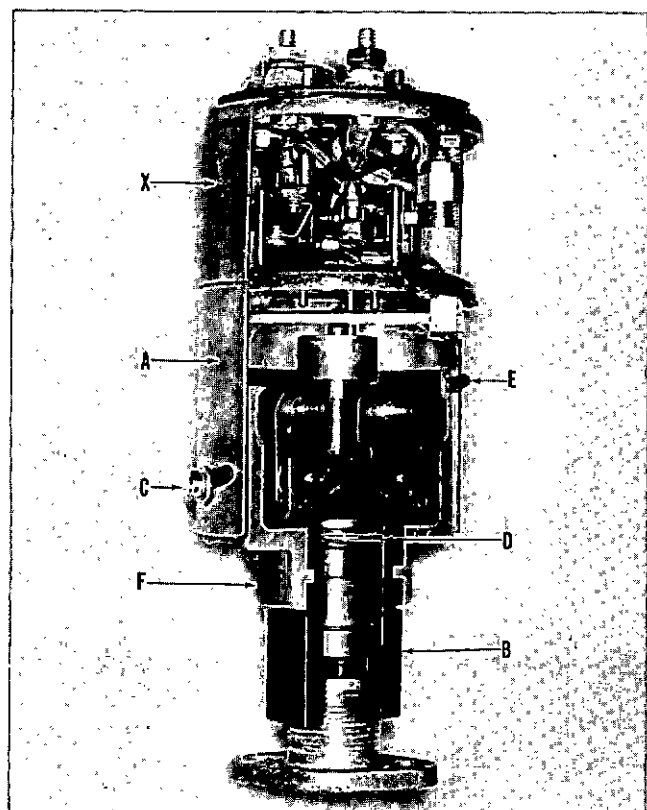

Fig. 15-1-2, CGS72. Synchro-Start switch — Cutaway
1. Before disassembly mark cap (A, Fig. 15-1-2) position on body (F) with scribe to insure correct reassembly.
2. Break lockwire and remove guide screws (C) securing cap to body; lift off cap.